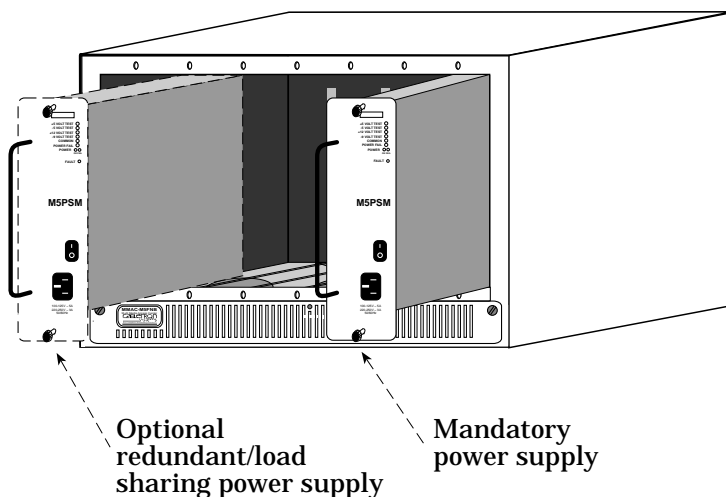

Figure 3-5. Installing the Power Supply Module(s)
4. Slide the M5PSM into the appropriate slot of the MMAC-M5FNB (Figure 3-5) as follows: